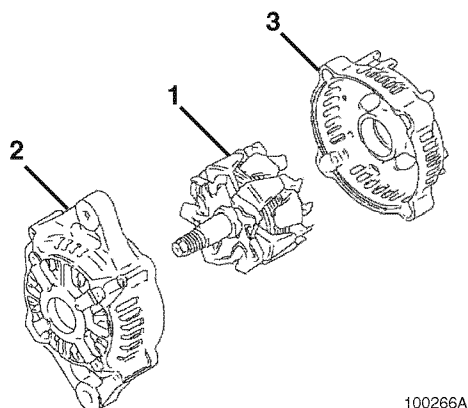

Figure 12-14
4. Lubricate the shaft of the rotor assembly (**Figure 12-14, (1)**). Press the rotor assembly into the front frame housing (**Figure 12-14, (2)**) and rear frame housing (**Figure 12-14, (3)**).